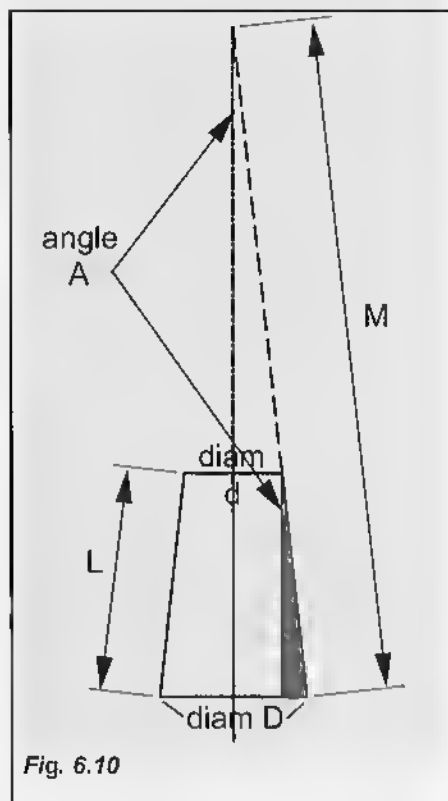
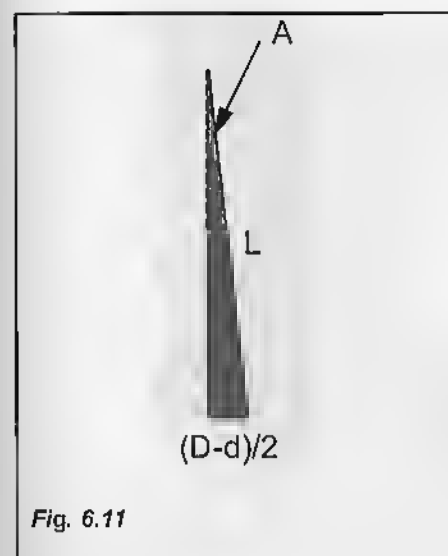

Fig. 6.10
Fig. 6.11
Assume this is what is required (Fig. 6.10). Firstly you need to complete the cone to obtain the maximum radius of the development (M). To find this use trig to calculate the angle A (Fig. 6.11 – the shaded
area of Fig. 6.10)